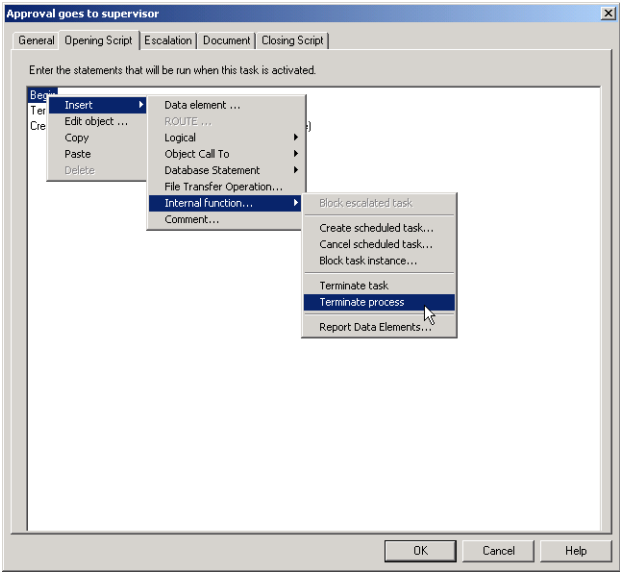

Figure 31-20. Opening Script tab with Terminate Process function selected.
- 1 To terminate a process, click on the **Opening** or **Closing Script** tab, right-click on a statement, select the **Insert** drop-down menu, select the **Internal Functions** drop-down menu, then select **Terminate Process** (see Figure 31-20, below).